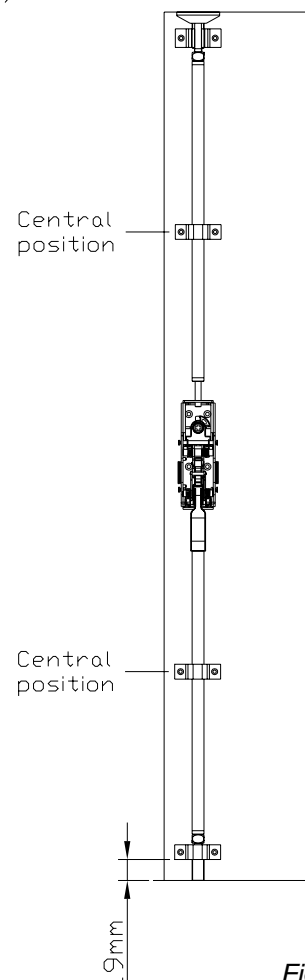

Fig 4.6
- Refit the assembled Panic Bolt with rods to the door and fix two plain guides (Items 8) to door at a central position on both rods using screws (Items 23) ensuring vertical alignment with door edge. The other plain guide does not require fixing at this stage. **See Fig 4.6**